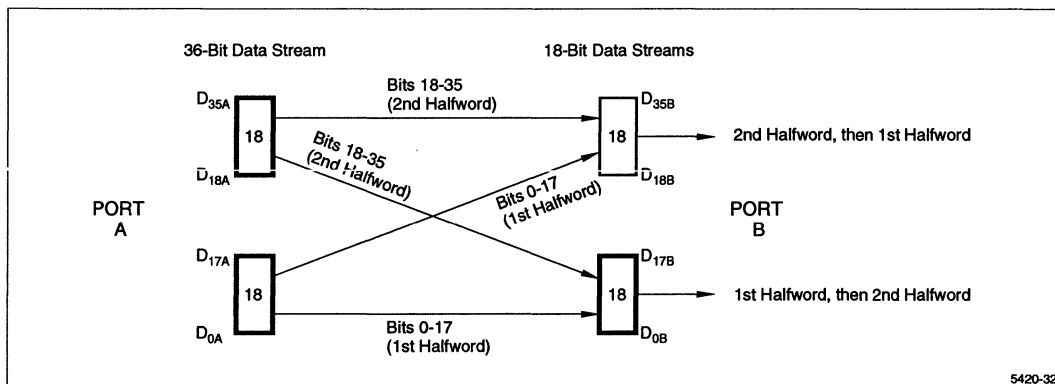
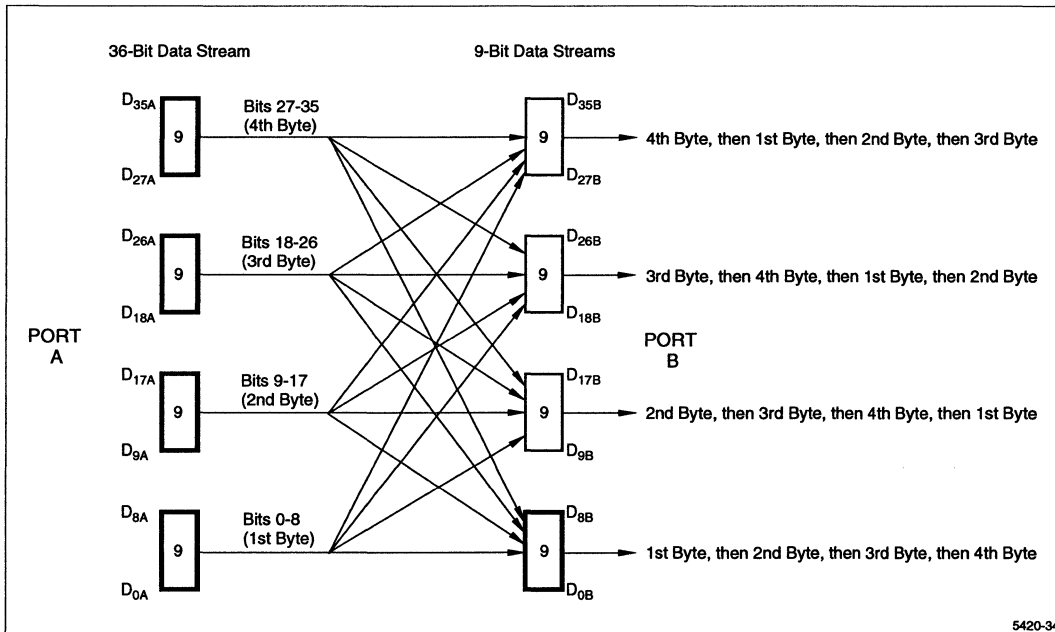

Figure 6a. 36-to-18 Funneling Through FIFO #1
Figure 6b. 36-to-9 Funneling Through FIFO #1
Note that the programmable word-width-matching feature is *only* supported for FIFO accesses. Mailbox and Data Bypass operations do *not* support word-width matching between Port A and Port B. Tables 2, 3, and 4, and Figures 6a and 6b summarize word-width selection for Port B.
2. The funneling process does not change the ordering of bits within a byte. Halfwords (Figure 6a) or bytes (Figure 6b) are transferred in parallel form from Port A to Port B.